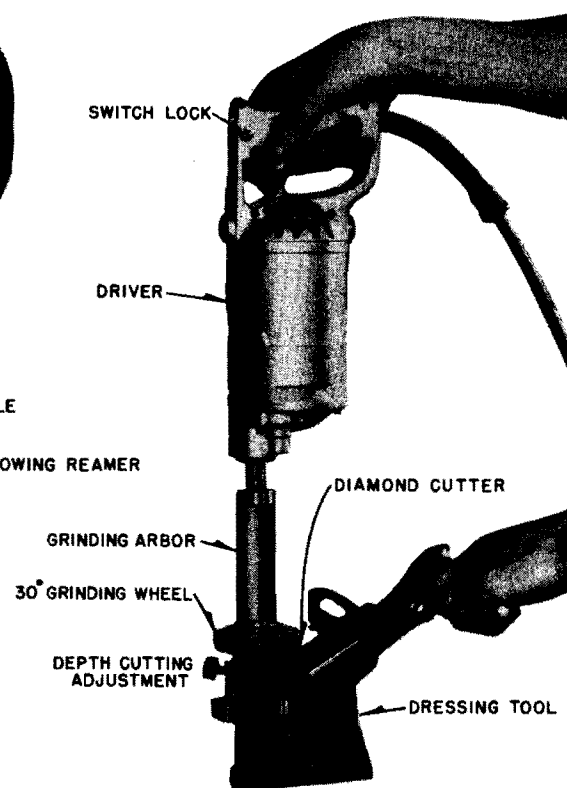

FIG. 3
- f. If stone needs dressing, mount as in Fig. 3. Put a little oil on the pilot to prevent sticking and eliminate friction. The spiral sleeve which raises and lowers the grinding wheel is adjusted until the wheel just touches the diamond; holder